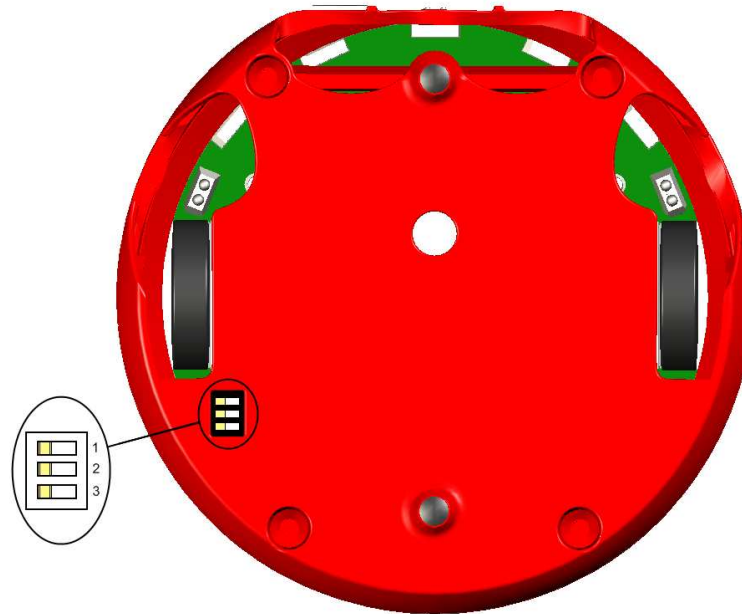
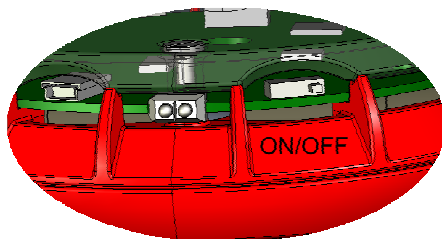

Figure 2.2: Notation of the switches
Figure 2.3: ON/OFF switch
- Check that the robot is powered off (figure 2.3)
- Turn ON the K-Junior by putting the ON/OFF switch in the ON position (left position on the figure 2.3). Now the Led next to the switch must blink
There are one Dip switch (three channels) and one power ON/OFF switch. The Dip switch is located in the Bottom of the robot (See figure 2.2) and the power ON/OFF switch at the back of the K-Junior (see figure 2.3). The Dip switch select internal behaviours describe in chapter 4.
The ON/OFF switch allows turning On the K-Junior, see figure 2.3 to know the correct sense of the switch. When the K-Junior is turn ON, the Led 4 must blinks. If not, the battery is certainly discharged. Then tried to charge the Robot with the USB cable and at the same time, turn On the Robot.